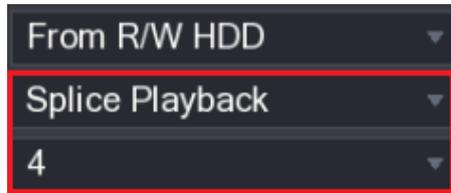

Figure 5-102
Step 2 In the **Search Type** list, select **Splice Playback**; In the Split Mode list, select **4, 9, or 16**. See Figure 5-102.